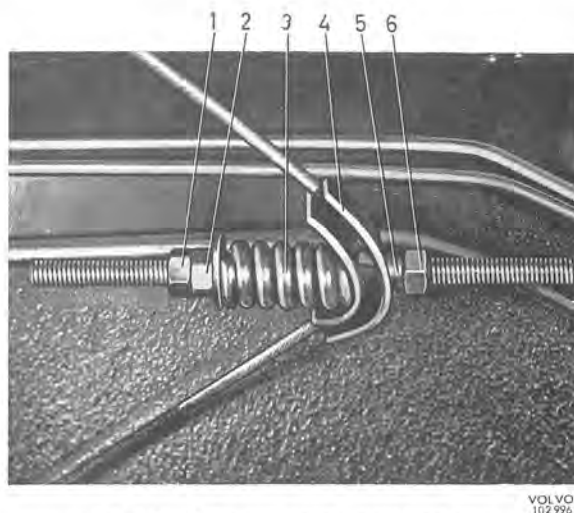

Fig. 5-80. Brake components, right-hand drive
3. Remove the puller (7, Fig. 5-79) or the clevis (4, Fig. 5-80). Remove the wheel (9) to get at the cable.
1. If new linings or drums are to be fitted, slacken the pulley (7, Fig. 5-79) or the clevis (4, Fig. 5-80) to remove tension in the cable.